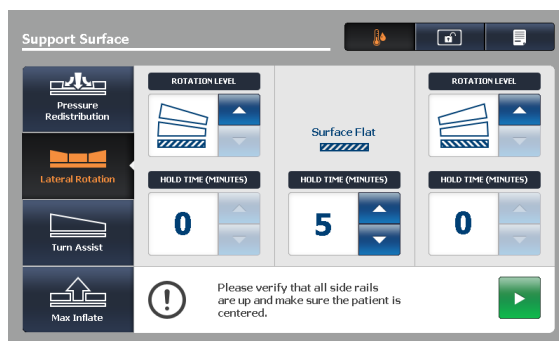

Figure 53 – Lateral rotation screen
2. Adjust the Lateral Rotation selections as needed (Figure 53):